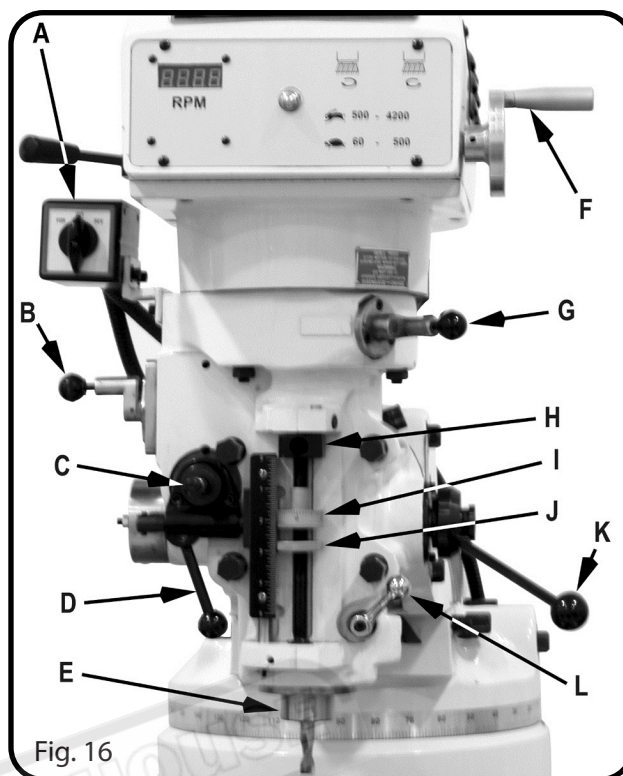

Fig. 16
Referring to Fig. 16:
11. Position auto-downfeed direction pin (see "C" Fig. 16) in center of handwheel for spindle travel that is correct for your operation.